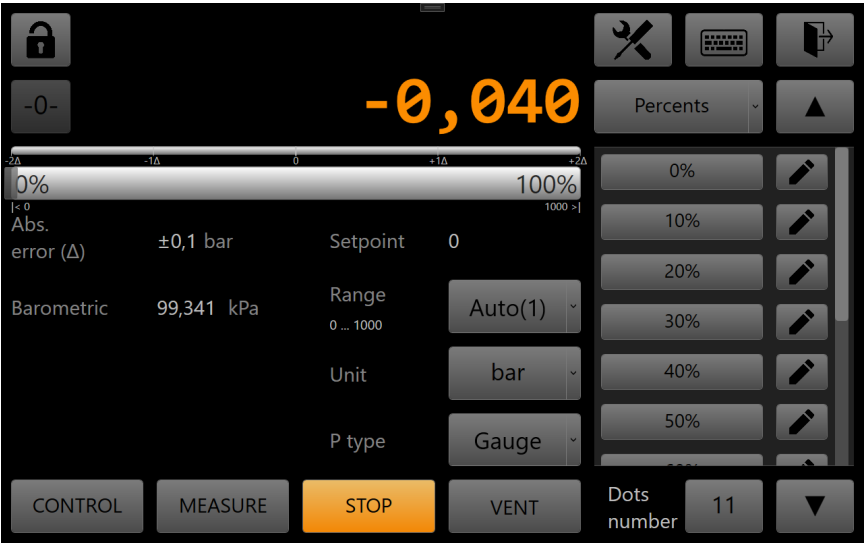

Fig. 8. Entering the percentage setpoint
7.5.3 When the  button is pressed, the setpoint input type menu appears with the following items: **Ручной ввод, Задан. процент, Программа** [Manual input, Set percentage, Program]. The numeric input keyboard corresponds to the **Manual input** item. When selecting the **Задан. процент** item for the input type, the digital input panel takes the form shown in Fig. 8.